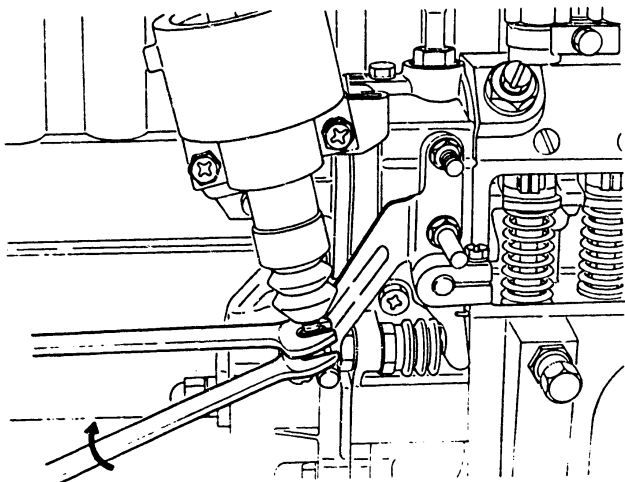

Fig. 81 Cap adjustment
- b. Adjust the cap so that the control rack moves 0.01 to 0.05 mm from position $R1$ in the "fuel-decrease" direction and secure with the nut. (Figs. 81 and 82)